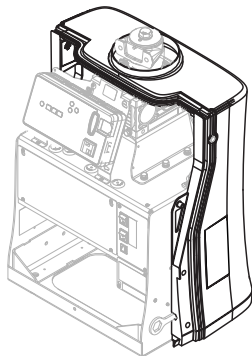

Figure 23. Place the Back Cover
2. Set the back cover over the taper clamp (Figure 23).